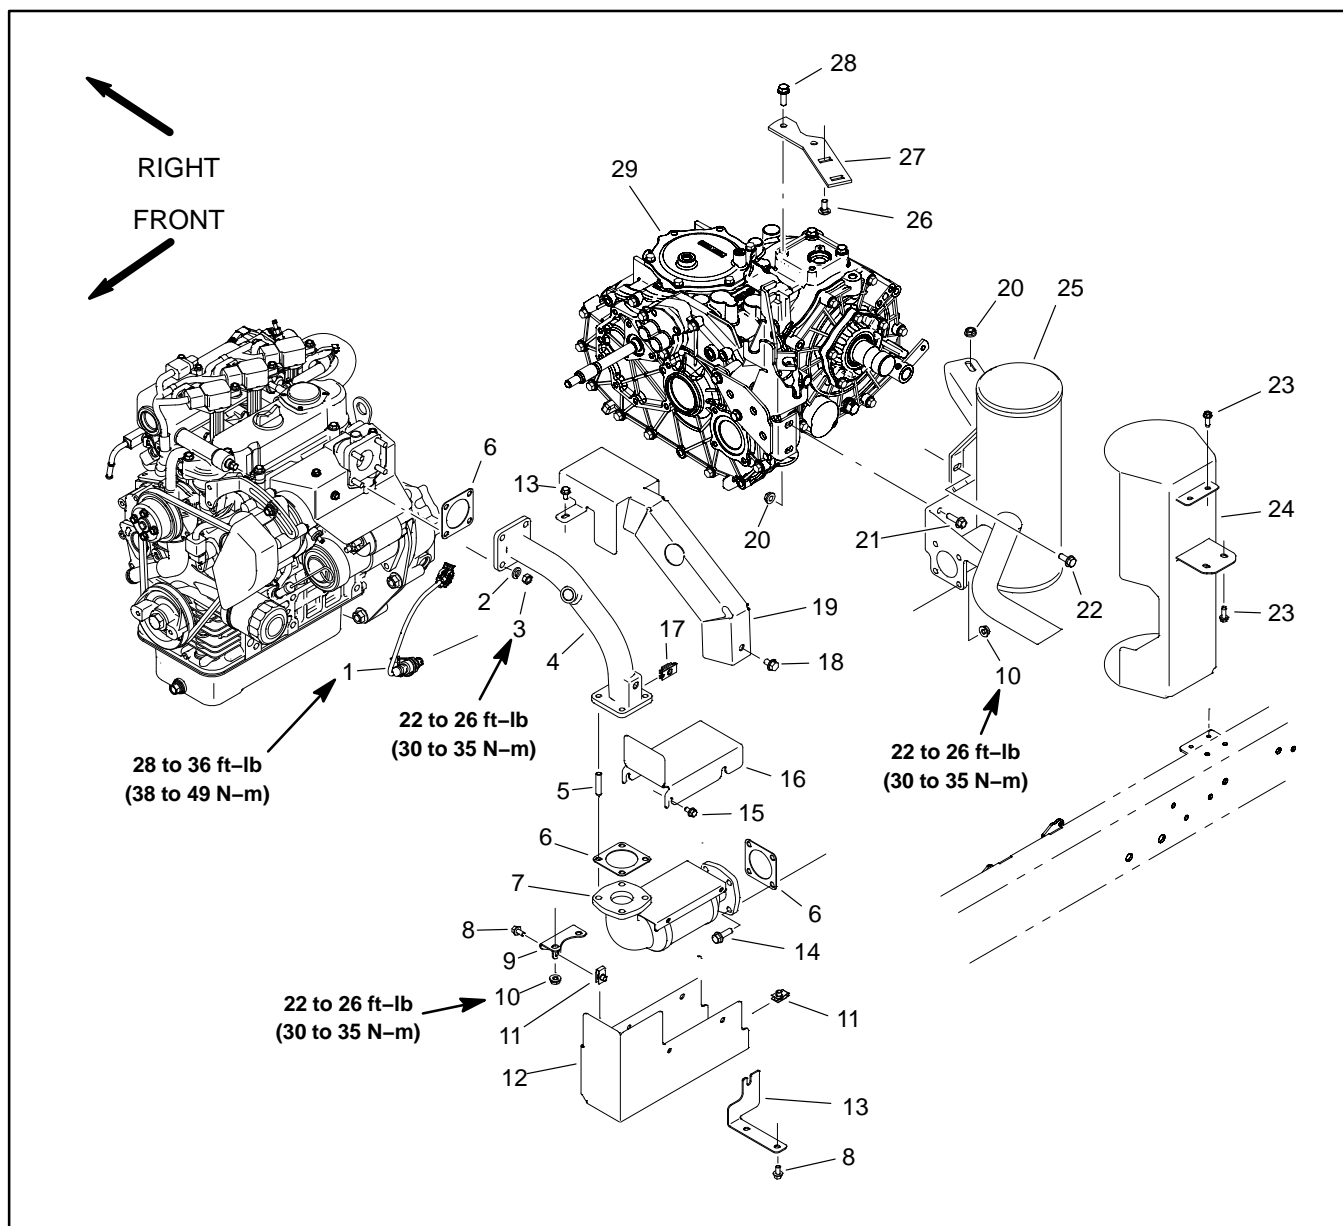

Figure 7
3. Note position of exhaust system heat shields and mounting brackets before removal. Remove exhaust system components as needed (Fig. 7).
2. Fit all exhaust components to vehicle before tightening any fasteners (Fig. 7). When securing exhaust, tighten fasteners in the following order: